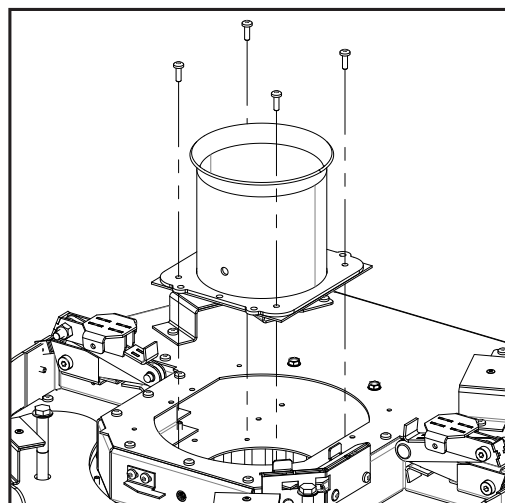

Figure 71: Exhaust Spigot Removal
8. Remove the exhaust spigot from the top of the unit by removing the four (4) T20 screws (see Figure 71). Be delicate with the gasket, you will be reusing this.